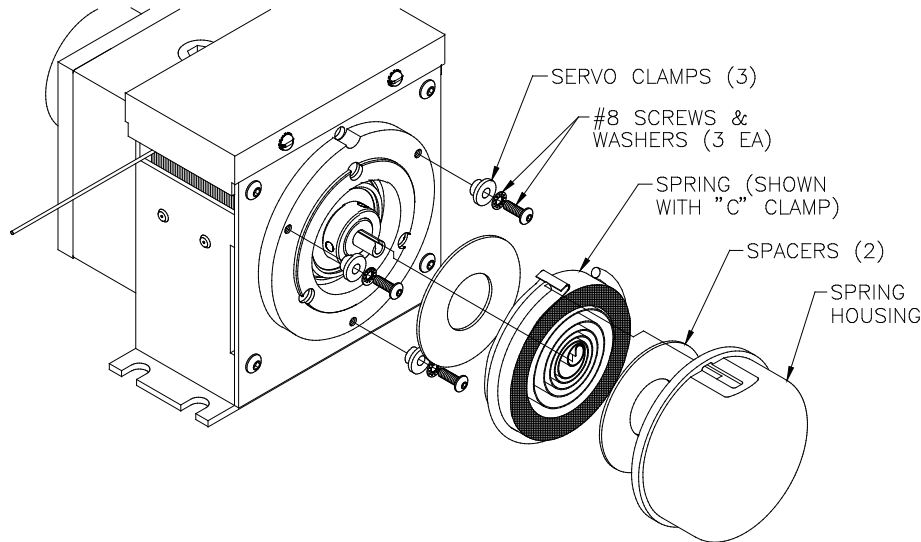

Fig. 4 Spring assembly parts - 925 A1
2) Loosen two of the three servo clamp screws with the Allen wrench (see **Fig. 4**). Grasp the spring housing firmly while loosening the third screw. Relax any residual tension. If spring removal and installation is not required, refer to Item 3 of this section for remaining tension adjustment instruction.
The spring housing assembly may be freed by removing all three servo clamp screws. Grasp spring cover, which is an aluminum casting, and pull cover and spring free from drum shaft roll pin (see **Fig. 4**). (**CAUTION:** Cover and spring must be removed together as **one** unit.) Spring may now be removed for inspection or replacement by disconnecting spring tang from the cover.